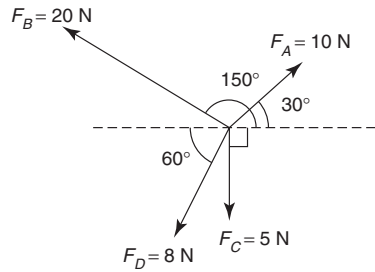

Figure 3.33
12. With reference to Figure 3.33, which of the following statements is false?